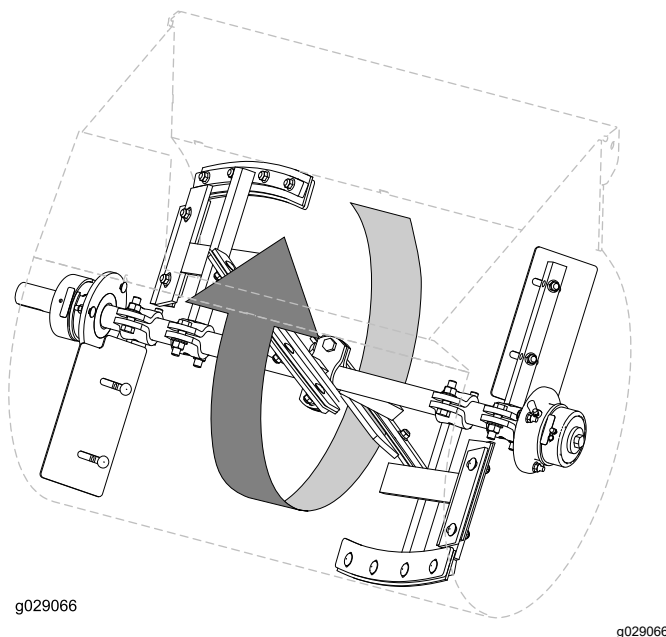

Figure 68
1. Rotate a paddle from the left row of paddles around the drum and locate at the interior of the drum the smallest distance between the drum and the wiper of the paddle (Figure 68).